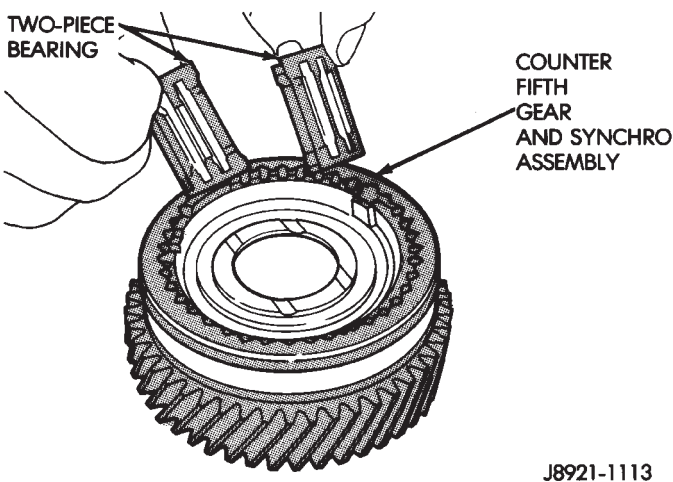

Fig. 100 Installing Counter Fifth Gear Bearing
- (4) Lubricate two-piece bearing with petroleum jelly and install it in counter fifth gear (Fig. 100).